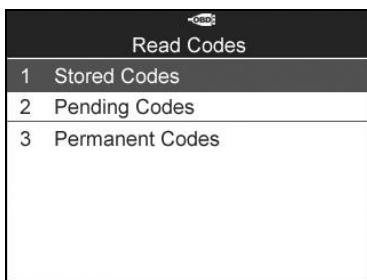

Figure 6.4
- 2) Use the **UP/DOWN** scroll button to select **Stored Codes**, **Pending Codes** or **Permanent Codes** from the **Read Codes** menu and press the **Y** button. (Figure 6.4)